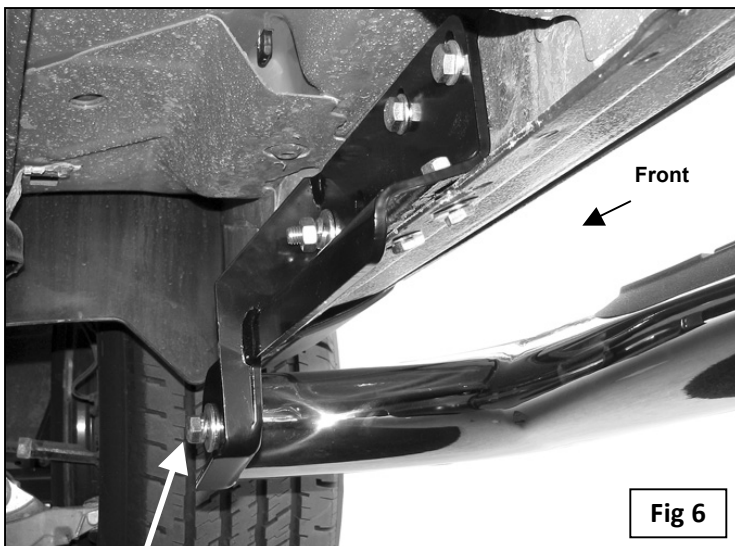

Fig 6
6. Once the Mounting Brackets are partially installed, carefully unpack and separate the driver and passenger Sidebars. Position the passenger Sidebar up to the Mounting Brackets and secure with the included (2) 1/2" x 2" Hex Bolts, (2) 1/2" Lock Washers, and (2) 1/2" Flat Washers, **(Figure 6)**. Snug but do not tighten at this time.